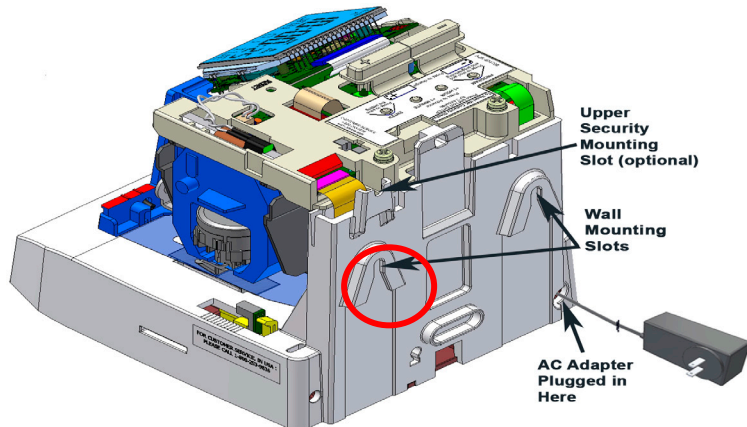

Figure 2: TCX-85 Rear View for Wall Mounting.
1. Using the supplied mounting template (see last page of this guide), mark the two (2) mounting slots on the wall. A 3rd mounting slot can be used to provide security (see Figure 2 below).
4. If security is an issue for removing the TCX-85 from the wall, remove the cover, and use the upper mounting slot (see Figure 2 below) to firmly secure the back of the TCX-85 to the wall. Secure to the wall using #10 wood screw (or equivalent).
Note – The optional security screw, if used, must be installed at a downward angle to provide adequate clearance for the cover to fit on properly (see Figure 2 on page 2-26).